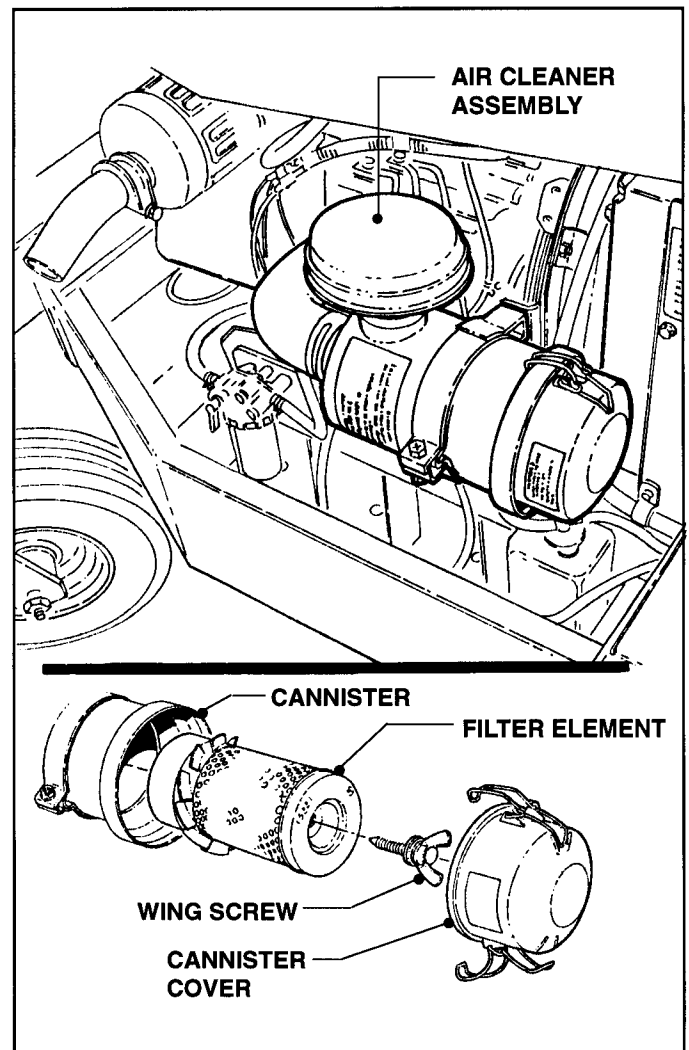

FIGURE 5.5
1. Remove Filter Cannister Cover. See Figure 5.5.
- Remove Wing Screw and Filter Element (refer to Figure 5.5).